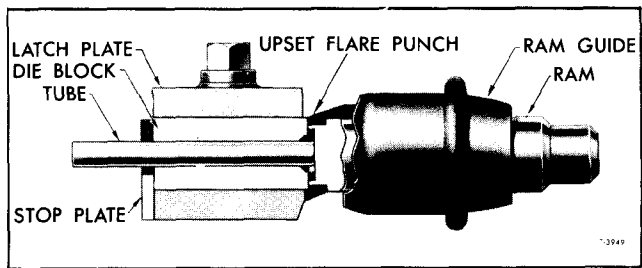

Figure 4—Flaring Operation Positioning Tubing
4. Slip the punch into the tool body with the gauge end toward the die blocks, install the ram and tap lightly until the punch meets the die blocks and they are forced securely against the stop plate (fig. 4).